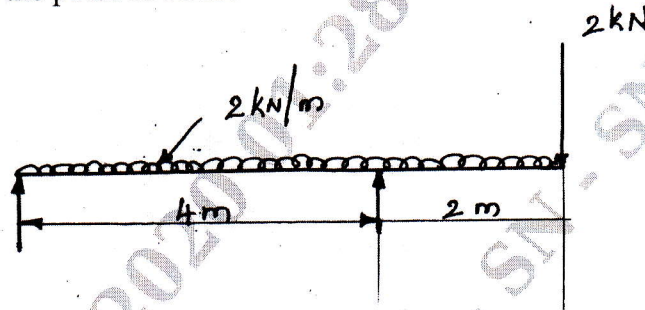

Fig Q5(b)
b. Draw the shear force and bending moment diagrams for overhanging beam carrying uniformly distributed load of 2kN/m over the entire length and a point load of 2kN as shown in Fig Q5(b). Locate the point of contra flexure.